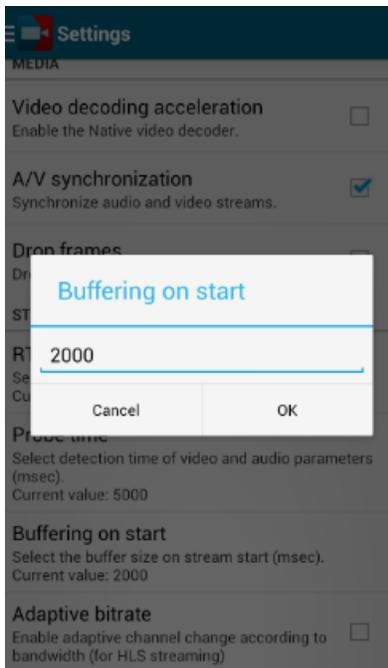

Figure 22. STREAMS -> Buffering on Start Menu
9. Enter 2000 under STREAMS -> Buffering on start, as shown in Figure 22.